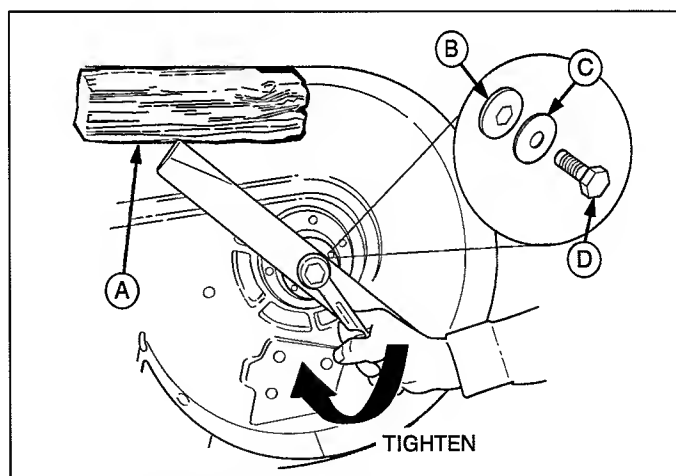

Figure 22. Installing The Blade
6. Reinstall each blade with the tabs pointing up toward deck as shown in Figure 22. Secure with a capscrew, spring washer and hex washer (be certain the hex washer is aligned with the hex shaft). Use a wooden block to prevent blade rotation and torque capscrews to 45-55 ft. lbs. (61-75 N.m.).